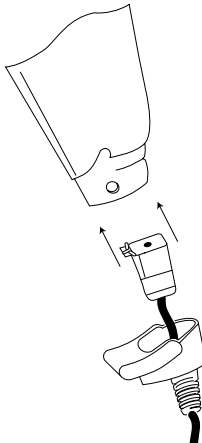

Figure 2-2. Plugging in the Modular Connector
3. Plug the modular connector on the cable into the receptacle in the bottom of the LS 4000P handle (Figure 2-2). Listen for a click.